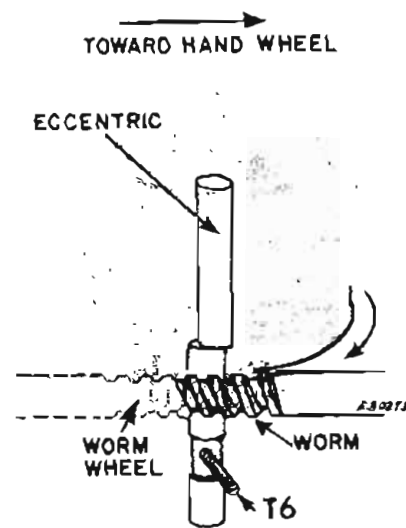

Fig. 69. Eccentric Worm Wheel and Worm Wheel Shaft
1. Replace cam stack, meshing worm wheel of cam stack with worm of arm shaft. (See Fig. 69.)
1. Assemble cam stack as a complete unit. Upper eccentric half of worm wheel shaft should be turned toward hand-wheel-end of machine, as shown in Fig. 69.